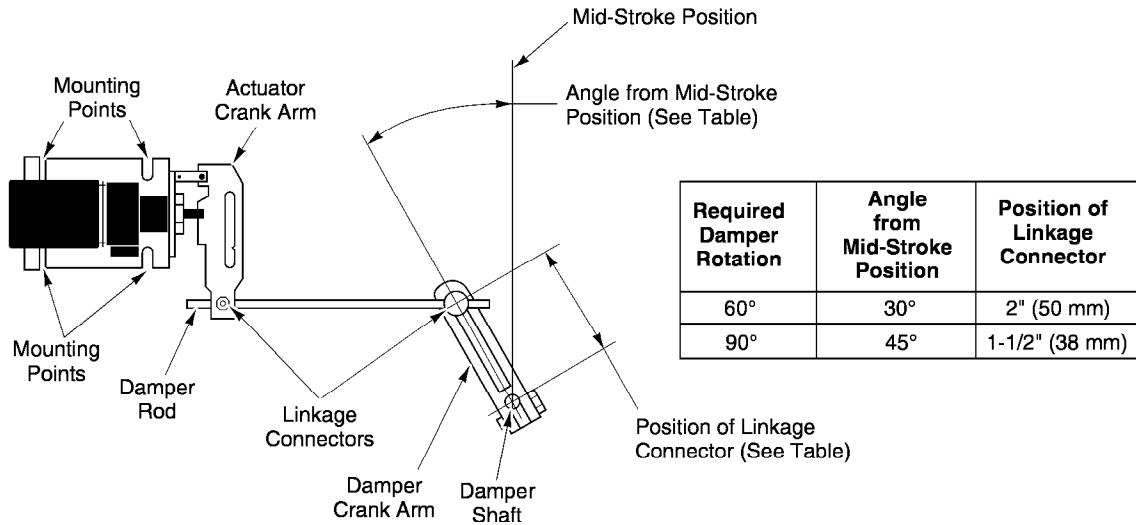

Figure-15 Actuator/Damper Mounting.
- c. If possible, select a mounting position such that, at mid-stroke, the actuator crank arm and the damper crank arm on the drive shaft are each at a 90° angle to the damper rod (refer to Figure-15). This is the recommended mounting position. It may be necessary to swivel the actuator linkage to arrive at this mounting location.
- Mount a ball joint connector in the slot on the damper crank arm. To achieve 90° of damper rotation, position the connector 1-1/2" (38 mm) from the centerline of the shaft hole on the crank arm. For 60° of damper rotation, position the connector 2" (50 mm) from the shaft hole centerline. Typically, 60° to 70° of rotation (maximum is 90°) is sufficient to permit almost maximum air flow through the dampers. Refer to Figure-15.
5. Rotate the damper to its open position. Install and secure the damper crank arm (with ball joint connector) to the damper shaft, positioning the crank arm as follows (refer to Figure-15):